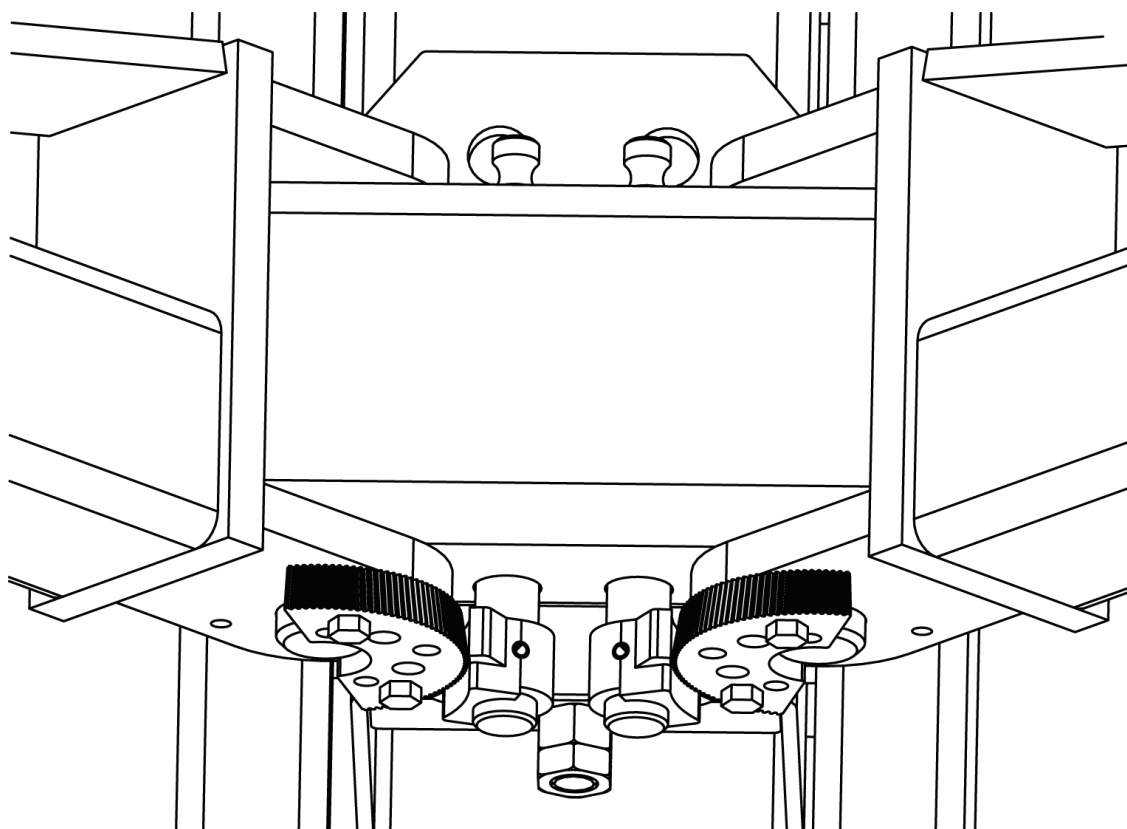

Figure 16
- B. Position the gears with word TOP against the bottom of the arms in the orientation shown in Figure 16. Attach the gears to the arms with (2) 3/8-16NC X 1-1/2 long HHCS. Do not tighten at this time.